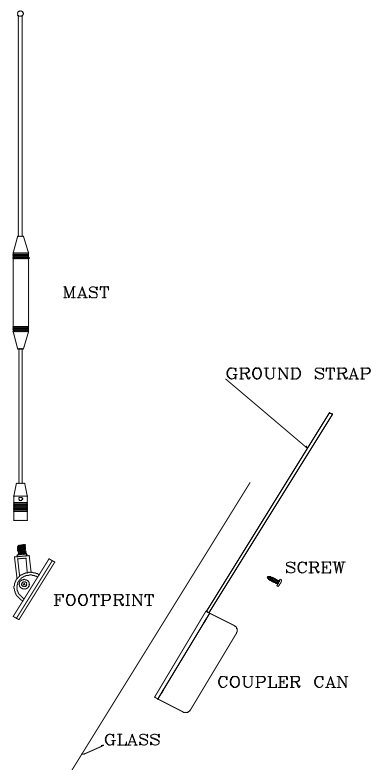

Figure 5 - General Assembly
3. Clean glass with the alcohol pad and adhere coupling box. Clean the outside of the window with the same alcohol pad. Open packet of silane glass treatment and wipe glass to ensure complete coverage. Wipe dry with clean cloth. Remove the adhesive backing on foot and place over the center of the coupling can (Refer to Figure 5 – General Assembly).